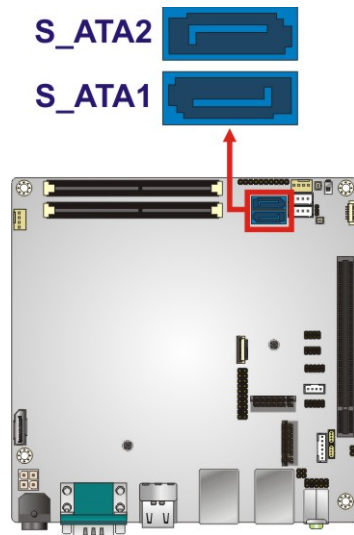

Figure 3-23: SATA 6Gb/s Drive Connector Locations
- CN Location:** See **Figure 3-23**